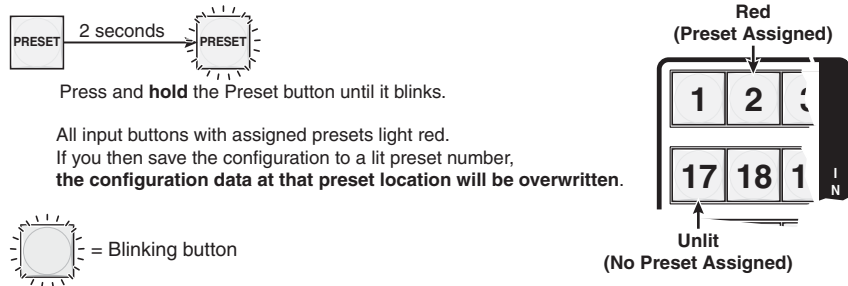

Figure 3-41 — Enter Save Preset mode
- Press and **hold** the Preset button for approximately 2 seconds until it blinks (figure 3-41).